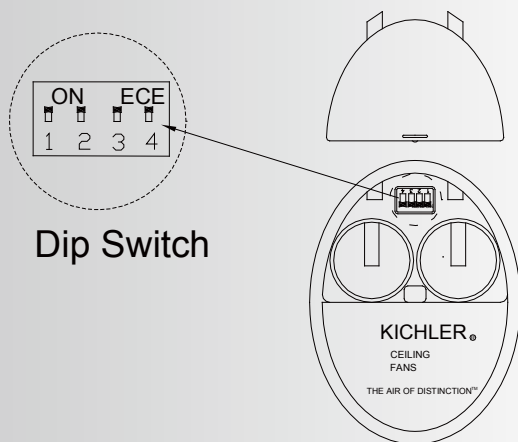

Fig. 29
Step 3. You can leave the frequency switches at the factory setting or move them to any combination of up or down. Use a small flat bladed screwdriver to move the switches. (Fig. 29)